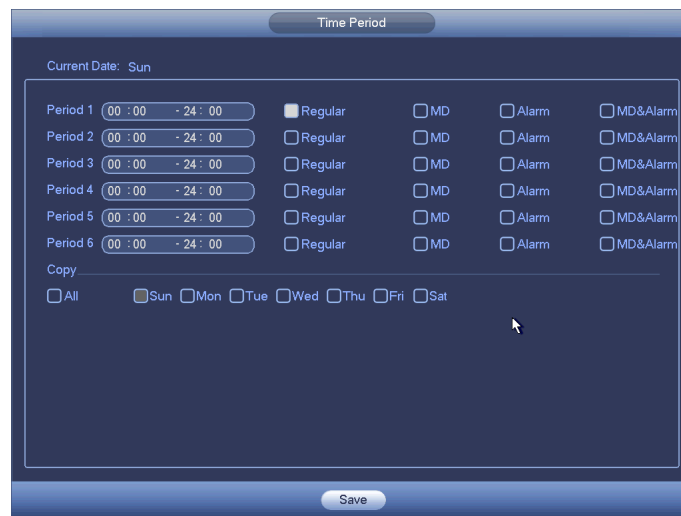

Figure 4-111
- Period setup: Click button  after one date or a holiday, you can see an interface shown as in Figure 4-111. There are four record types: regular, motion detection (MD), Alarm, MD & alarm.